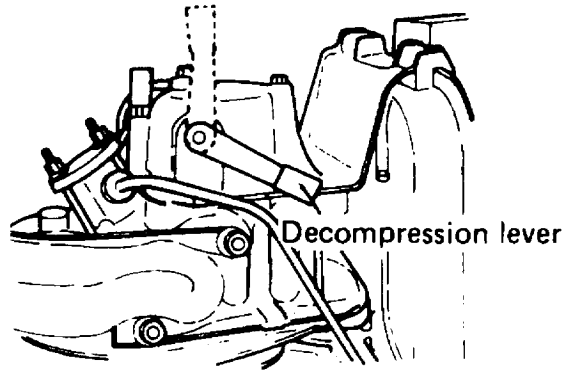

Figure 2-2 Starting and priming the pump unit
- d. Slowly pull on the recoil starter checking engine and pump for freedom of movement and priming the engine with lubricating oil. Depress the compression release lever ensuring that it remains depressed. The compression release lever will spring shut when the engine rotates during starting attempts (see Figure 2-2).